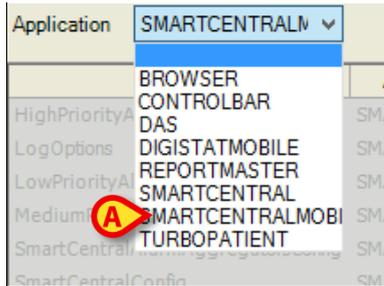

Fig 71
- 6 Select **“Smart Central”** on the **“Application”** filter indicated in Fig 70 A (enlarged in Fig 71) and then click **Apply Filter** (Fig 70 B).